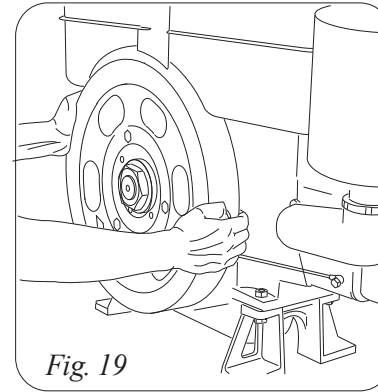

Fig. 19
1. Turn the flywheel until the mark T. D.C. on its periphery matches with the line on the hopper, to set the piston at its top dead center position in the compression stroke not exhaust stroke(Fig. 19).